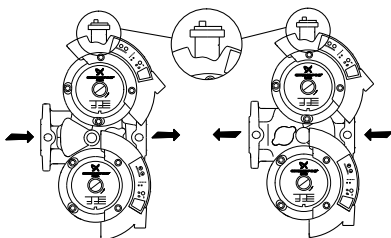

Fig. 3 Automatic air vent
**Caution** *Twin-head pumps mounted in horizontal pipes must be fitted with an automatic air vent (Rp 1/4) in the upper part of the pump housing, see fig. 3.*